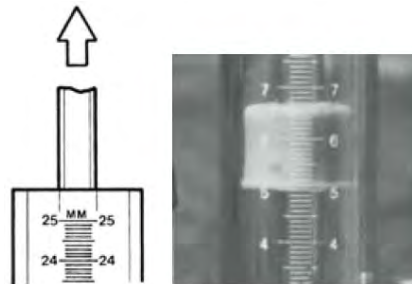

Fig. 33. Raise the Air Inlet Tip by slowly pulling up the Upper Air Tube.
**Slowly raise the Air Inlet Tip** (Fig. 33 left), by grasping the Upper Air Tube to establish the first well head height. Note that raising the Air Tube too quickly can cause turbulence and erosion in the well and a potential surging effect that could cause the well to temporarily overflow. Raise the Air Tube until the well height  $H_1$  is established, as indicated by reading the lower edge of the Well Height Indicator against the Well Head Scale (Fig. 33 right). In permeable soils select the combination reservoir and set  $H_1$  between 5 and 10 cm. In slowly permeable soils select the inner reservoir and set  $H_1$  between 10 to 25 cm depending on the R value obtained.